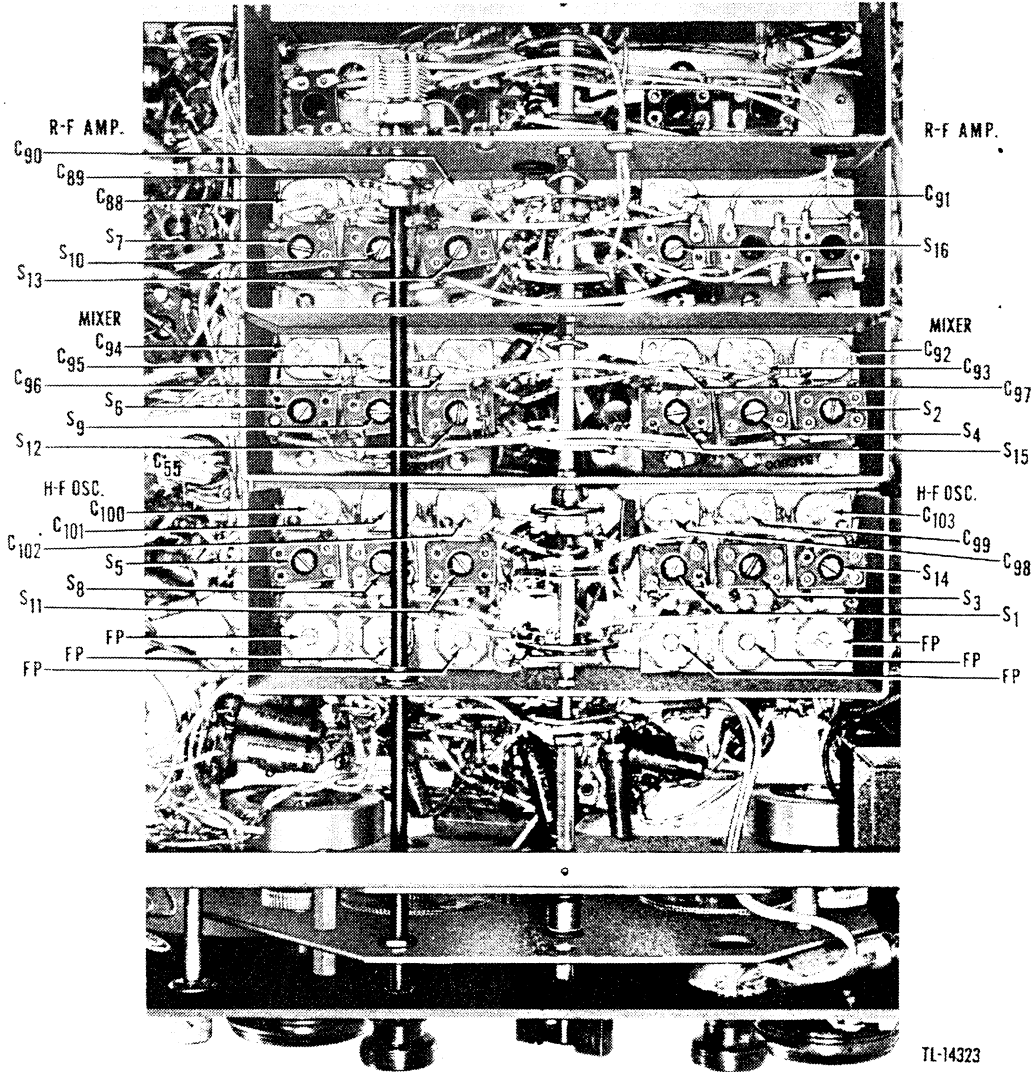

Figure 23. R-f and oscillator adjustments.
CAUTION: FP, shown in figure 23, indicates a fixed pad.
(3) Adjust the various controls as shown in the following table for maximum indication of the output meter. See figure 23 for these adjusting locations.